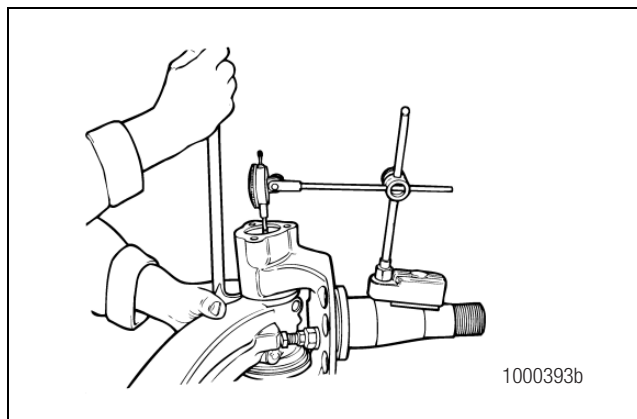

Figure 6.25
- Place a pry bar between the knuckle and the top of the axle center. Push the knuckle up and measure the end play. Figure 6.25.